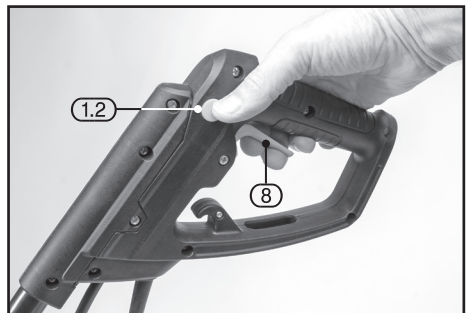

FIG.20
9.3 SWITCHING ON AND OFF – FIG.20